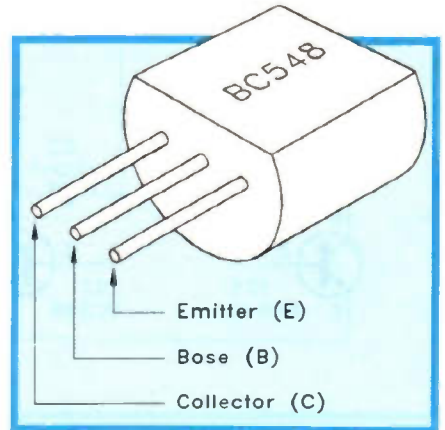

Figure 5. BC548 transistor circuit symbols and lead identification (TR1,2).
e) TR1 and TR2 should be fitted to the board next; these have a small black plastic body and three leadout wires. They are marked with their type number, which in each case is 'BC548'. Other markings may also be present; you will have to get used to picking out the important markings on chips and transistors (and ignoring the others!). You must ensure that TR1 and TR2 are fitted to the board correctly. Figure 5 shows which lead is which, making this task easy.